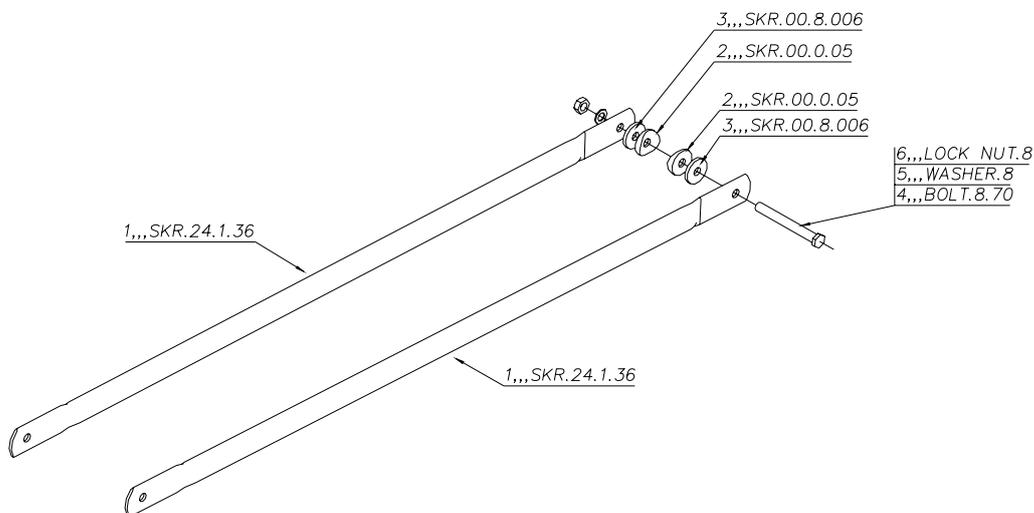

Figure 35; upper engine mount triangulation tubes.
- b) Loosely fix the two stainless-steel upper triangulation tubes **tu24** to the top of the front vertical **tu14**, including saddle washers, Figure 23 and Figure 35.
- a) Loosely fix the two stainless-steel upper triangulation tubes **tu24** to the top of the front vertical tube **tu14**, including saddle washers, Figure 23 and Figure 35.